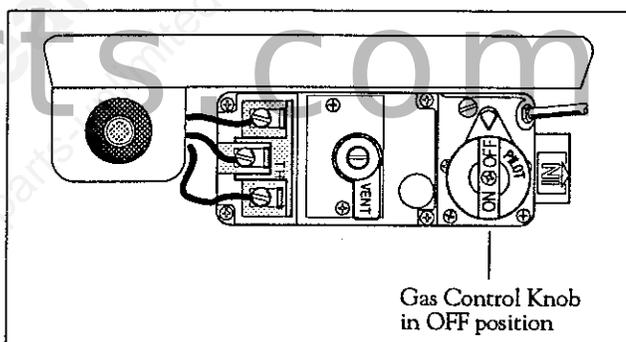

Fig. 2 Gas Control Valve / "OFF"
**Step 1.** Before lighting the pilot, make sure that the valve is in the "OFF" position by pushing in the gas control knob slightly and turning it clockwise to "OFF." Fig. 2.